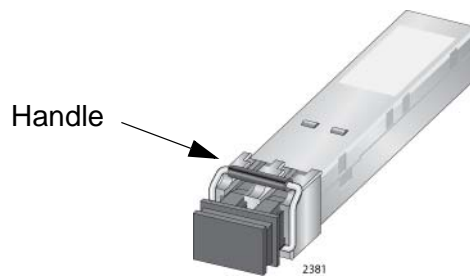

Figure 105. Handle on an SFP or SFP+ Transceiver
2. If you are installing the transceiver in slot 0 or 2, orient it with the handle on top, as shown in Figure 105 on page 169. To install it into slot 1 or 3, orient it with the handle on the bottom.